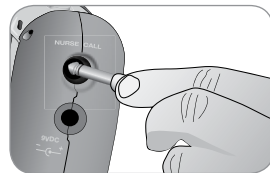

Fig. 10
1. Insert one end of cable into “Nurse Call” jack on left side of alarm (fig. 10).